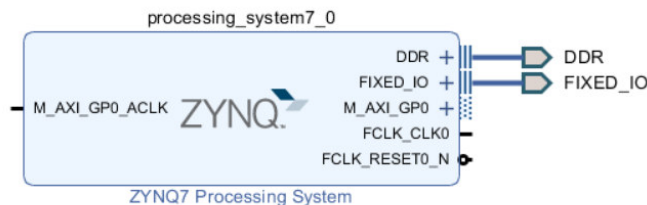

Figure 17: ZYNQ Processing System
7. Select the **Clock Configuration** tab and expand **PL Fabric Clocks**. Make sure the **FCLK_CLK0** option is selected with a 100 MHz frequency. Click **OK**. The ZYNQ Processing System should now show the **AXI_GP0** interface along with the required clocks as shown in Figure 17.